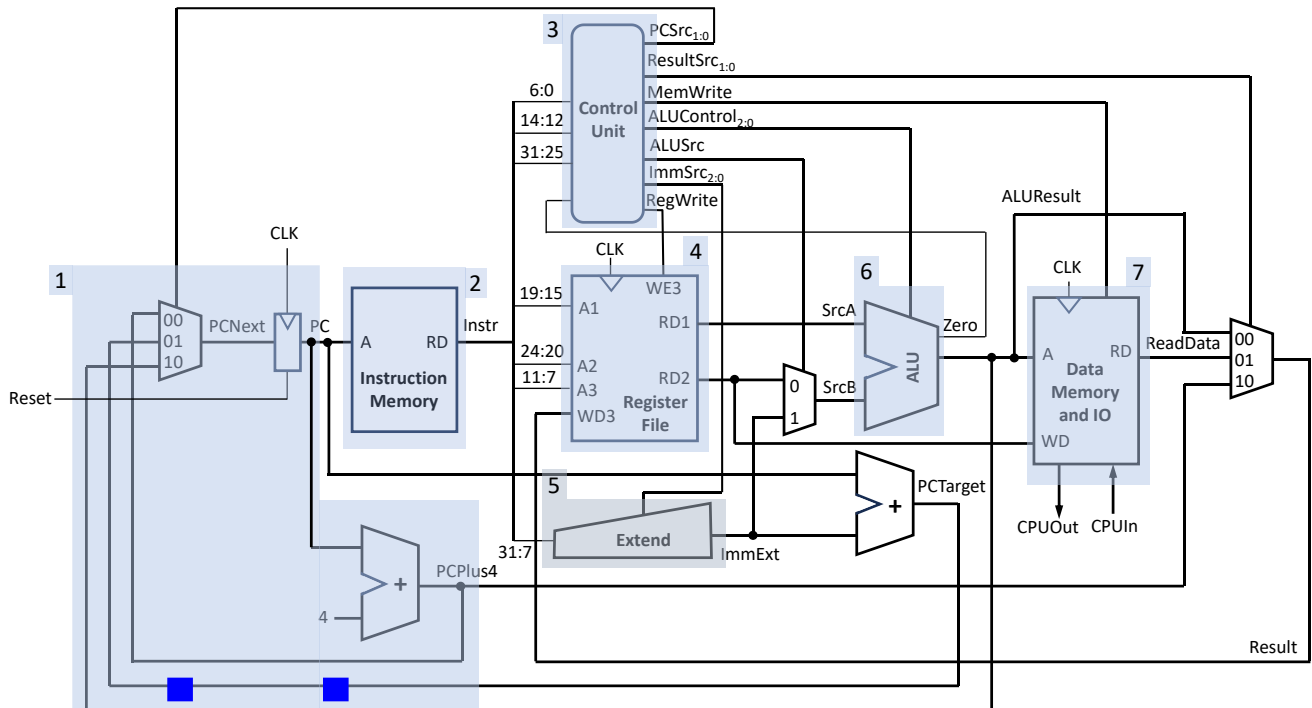

Figure 3 RISC-V microarchitecture with the sub-blocks highlighted
You should create a hierarchical design, with the sub-blocks which are highlighted in Figure 3 implemented as individual SystemVerilog modules. These will then be instantiated by the top-level module, which will have the module name risc\_v.
The sub-blocks in Figure 3 are listed in Table 2.
- Complete the top-level module (`risc_v.sv`), interconnecting the individual modules to form the microarchitecture in Figure 3.